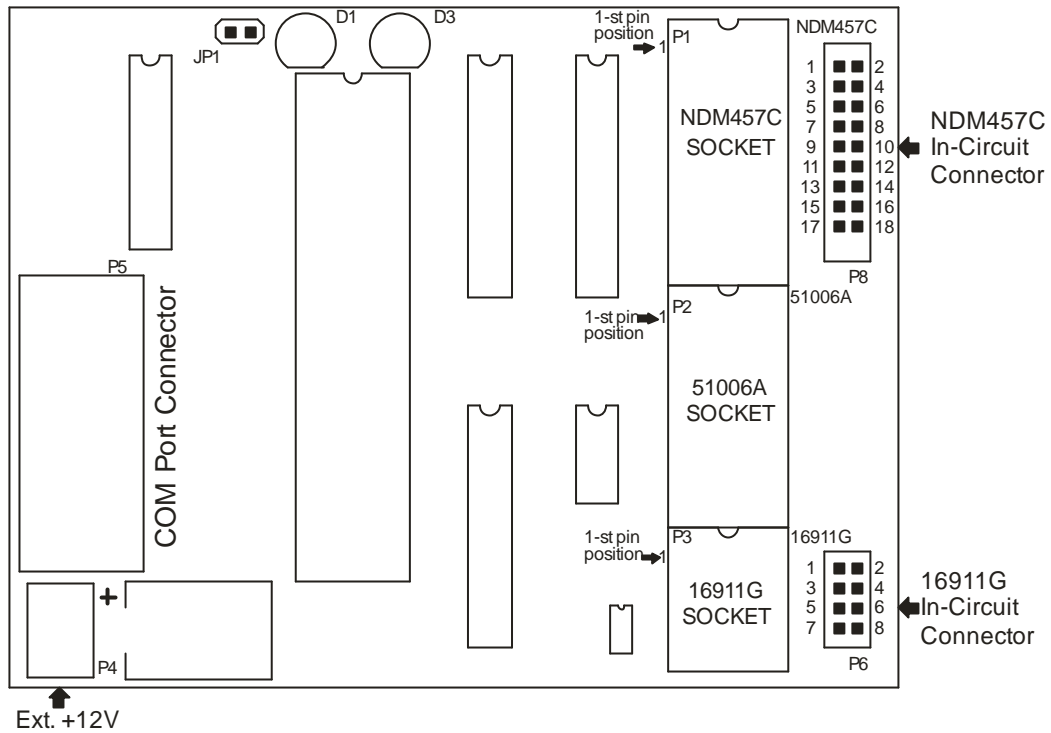

Figure 1. The NDM457-Programmer board layout
The NDM457-Programmer includes two LED's and mode jumper (Figure 1). LED's indicates programmer state and external power supply voltage (Table 1, 2).
- Insert jumper JP1 (see Figure 1).
- Remove JP1 (see Figure 1).
Note: When using In-Circuit programming interface remove any EEPROM from on-board sockets (see Figure 1).
Note: When On-board programming interface used, remove cable from ICP connectors (see Figure 1).
- Remove any EEPROM from On-Board sockets (see Figure 1).
- Insert EEPROM into corresponding socket (see Figure 1).
- Remove wire bus from In-Circuit connectors (see Figure 1).
- Power-up the NDM457-Programmer LED D1 (see Figure1) will light green.